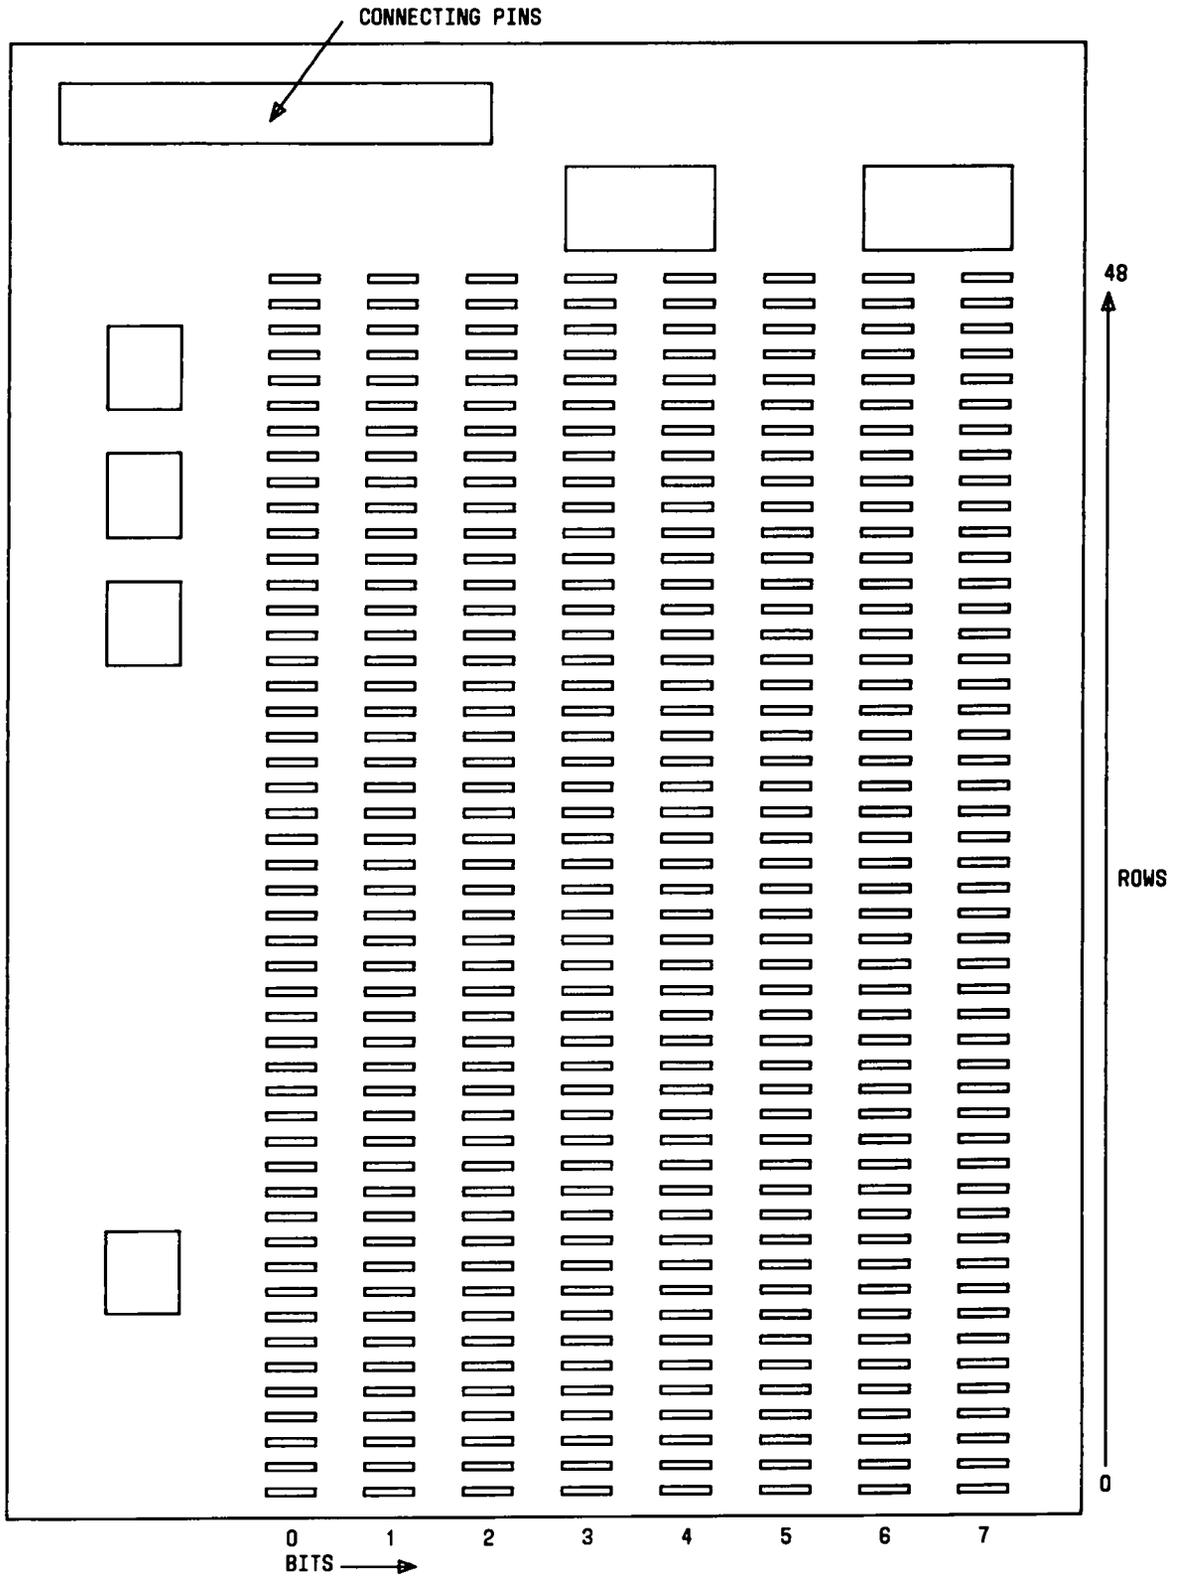

Fig. 6—Diode Matrix Circuit Card 410734
**7.03** The 410734 card is optioned by cutting and removing the proper diodes. Table E specifies the diodes that should have been removed, and Fig. 6 shows the location of these diodes.